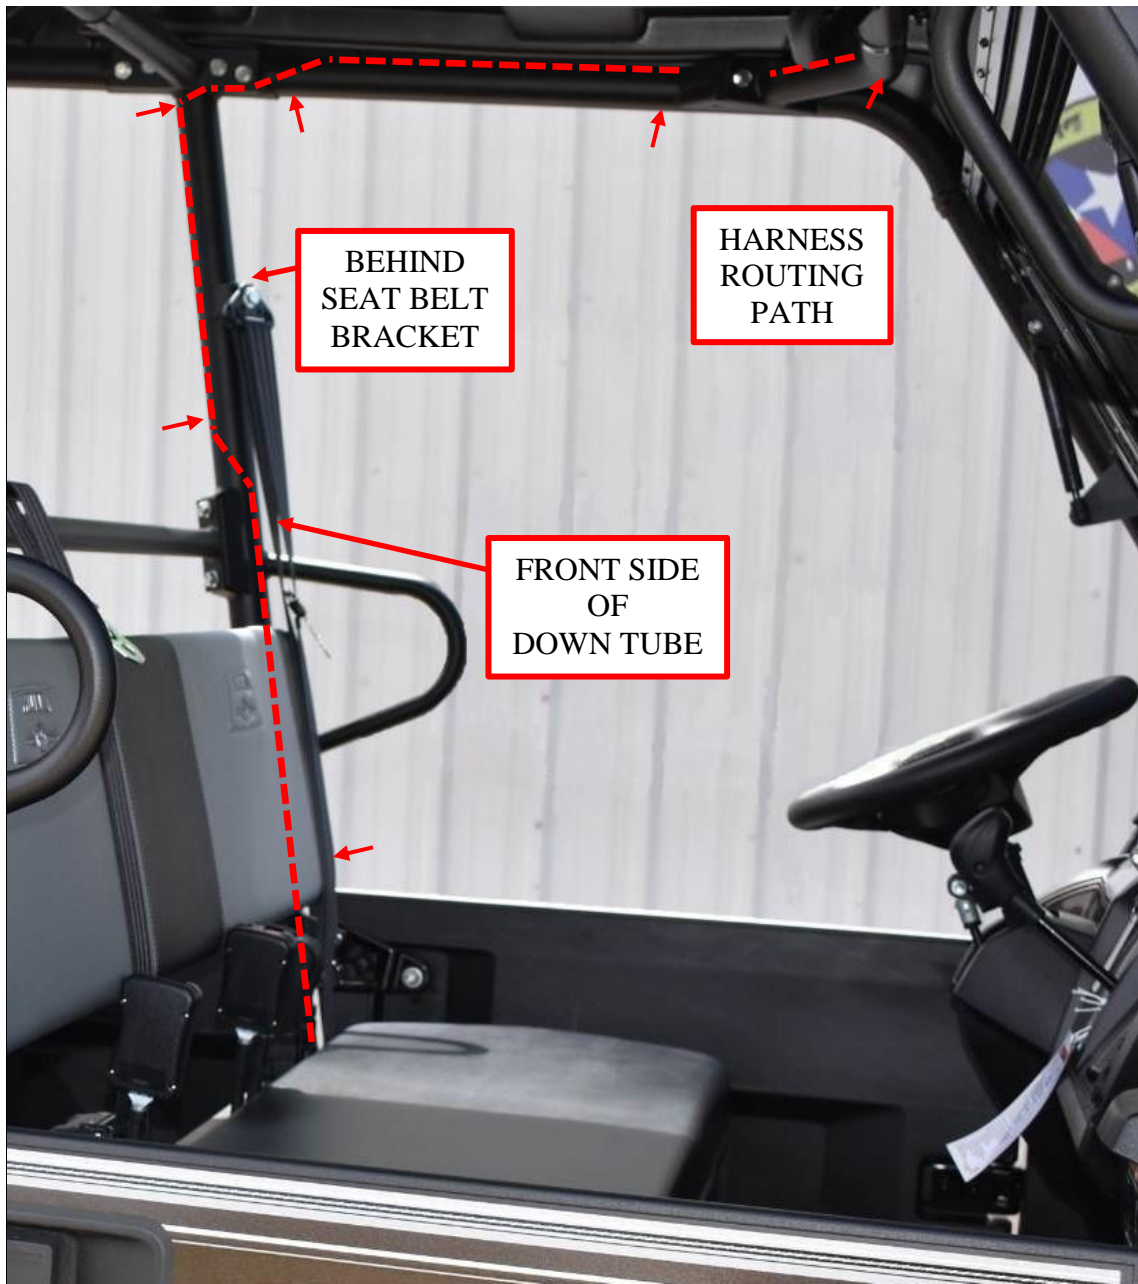

Figure 11: Route the chassis harness on the roll cage.
8. Route the chassis harness, using the provided zip ties, on top of the roll cage (in the roof recess) and down the down tube immediately behind the driver's seat towards the gap in the corner of the front seat as shown in Figure 11. Zip ties are at the indicated arrow locations.